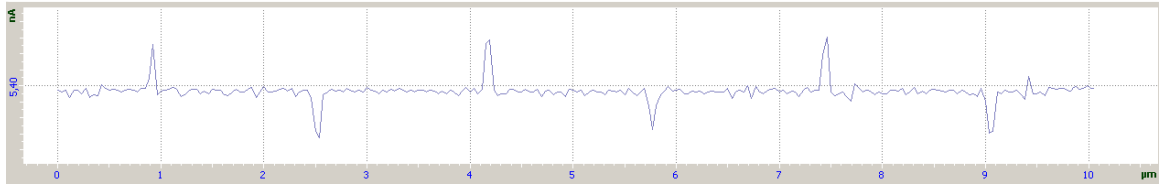

Fig. 8-32. Signal **Mag**
- If the **S** button in the left bottom of the 2D Viewer is pressed, the 1D Viewer will display the detection signal line-by-line (Fig. 8-32).